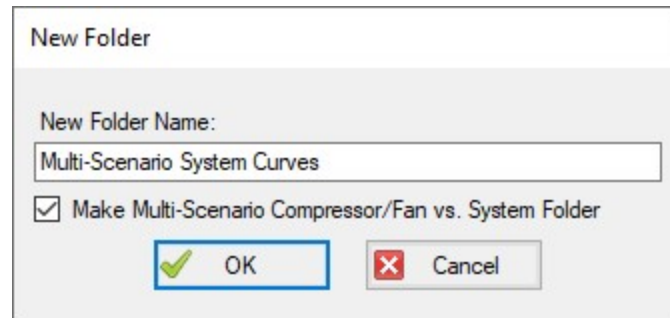

Figure 1: Creating a Multi-Scenario Compressor/Fan Vs. System Folder
1. In the Graph List Manager select "New Folder". Provide a name for the folder, and check the box to "Make Multi-Scenario Compressor/Fan Vs. System Folder", as is shown in Figure 1. This folder will be used to save the curves from the individual scenarios that will be included in the multi-scenario graph.